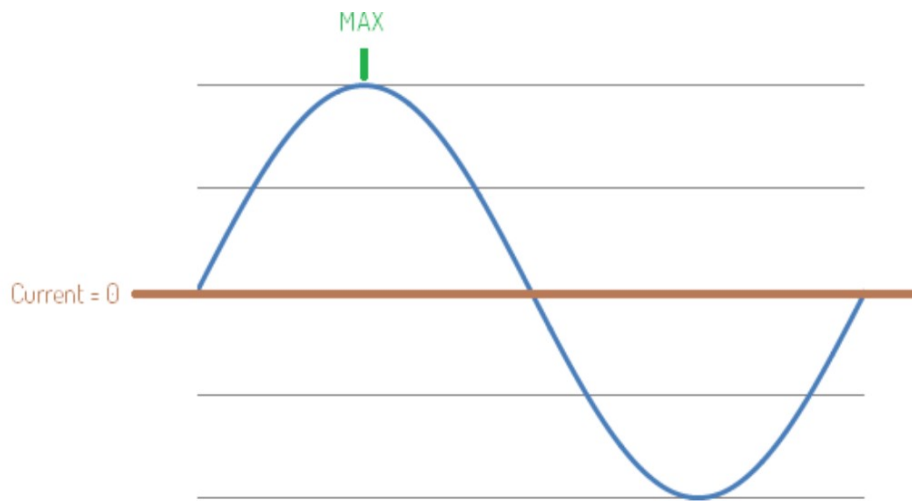

Figure 88. Trigger out event - signal maximum.
- MAX (maximum) – A signal reached its maximum (only applicable to tACS) (Figure 88)